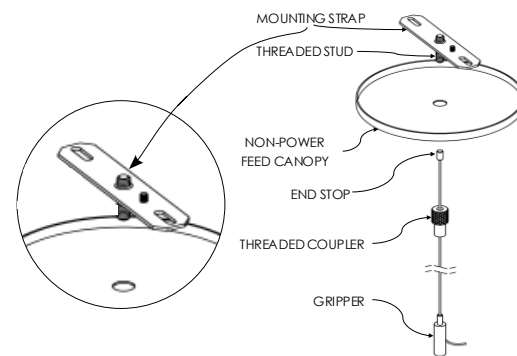

Fig. 3
3. Install mounting strap to ceiling using customer provided screws. Mounting strap on feed end must be secured to customer supplied junction box (see figure 3)
3. Install mounting strap to ceiling using self-provided screws. Mounting strap on feed end must be secured to customer supplied junction box (see page 3 figure 3)